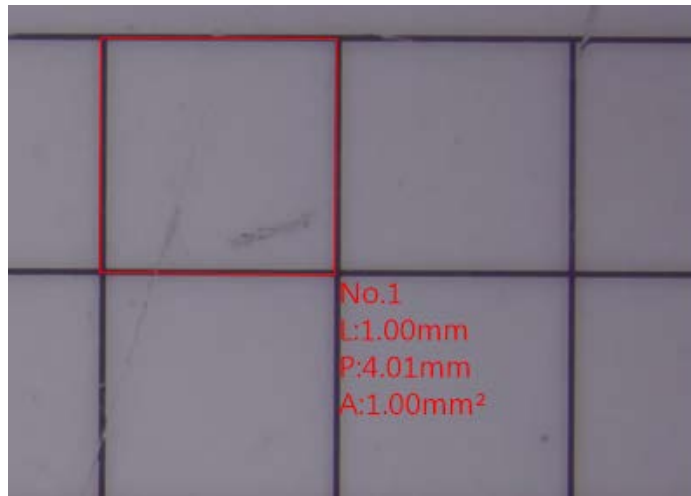

Fig. 5-7 Square measurement
- (3) Square : The object is regular quadrilateral that can apply  tool. Draw from any corner toward Diagonal direction as a square. In the Fig. 5-7, square circumference is $P=4.01\text{mm}$, one side is $L=1.00\text{mm}$ and area is $A=1.00\text{mm}^2$.